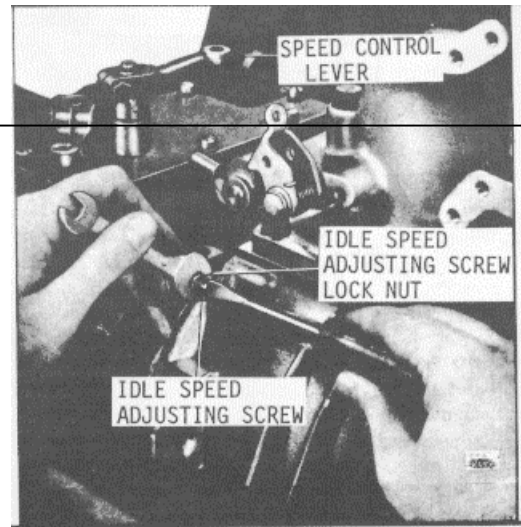

Fig. 10
- (3) Start the engine and loosen the idle speed adjusting screw locknut. Then adjust the idle screw (Fig.10) to obtain the desired idle speed. Hold the screw and tighten the locknut to hold the adjustment. Note: Limiting speed governors used in turbocharged engines include a starting aid screw threaded into the governor housing. Important: The recommended idle speed is 400-450 rpm, but may vary with special engine applications.
- (4) Stop the engine. Clean and remove the governor cover and lever assembly and discard the gasket.
- (5) Start and run the engine between 1100 and 1300 rpm by manual operation of the differential lever.
- (1) With the engine running, at normal operating temperature and with the buffer screw backed out to avoid contact with the differential lever. turn the idle speed adjusting screw (Fig. 10) until the engine operates at approximately 15 rpm below the recommended idle speed,